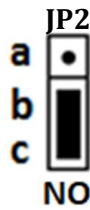
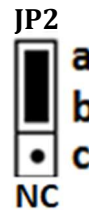

Figure 3 – Normally Open (NO)
Figure 4 – Normally Closed (NC)
- **JUMPER 2 (JP2):** It is used to control the outputs (NO / NC) of the 1st Relay used for GKV. If the jumper cap to be used is attached as in figure 3, the NO leg of the relay is given to the terminal. But if it is used as in figure 4, the NC leg of the relay is given to the terminal.